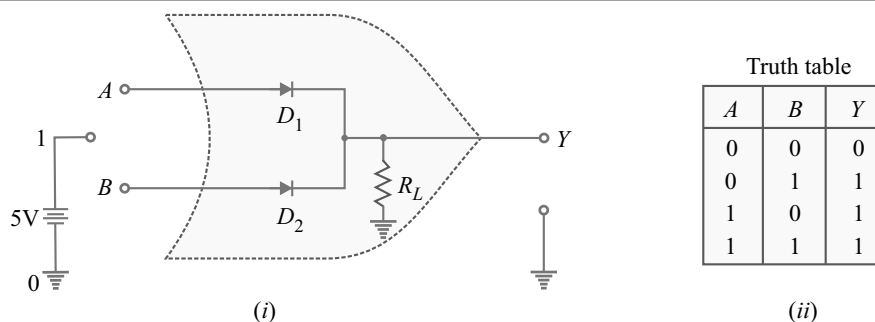

Fig. 24.11
**OR gate operation.** Fig. 24.11 (i) shows two-input OR gate built by using two ideal diodes  $D_1$  and  $D_2$  and a resistor  $R_L$ . The input voltages are labelled as  $A$  and  $B$  while the output voltage is  $Y$ . Note that negative terminal of the battery is grounded and corresponds to 0 state (LOW level). The positive terminal of the battery (+ 5 V) corresponds to 1 state (HIGH level). There are only four input-output possibilities.
(i) **When  $A = 0$  and  $B = 0$ .** This means that both diodes  $D_1$  and  $D_2$  are connected to ground (0V). Therefore, both the diodes are reverse biased and non-conducting. As a result, output voltage across  $R_L$  is zero *i.e.*,  $Y = 0$  as shown in the truth table in Fig. 24.11 (ii).
(ii) **When  $A = 0$  and  $B = 1$ .** This means that  $D_1$  is connected to ground (0 V) and  $D_2$  is connected to + 5 V. Therefore,  $D_1$  does not conduct (reverse biased) while  $D_2$  conducts (forward biased). As a result, full voltage of + 5 V appears across the load  $R_L$ . In other words, output is high *i.e.*,  $Y = 1$  as shown in the truth table in Fig. 24.11 (ii).
(iii) **When  $A = 1$  and  $B = 0$ .** This means that diode  $D_1$  is connected to + 5 V and diode  $D_2$  to ground (0 V). Therefore,  $D_1$  is forward biased and conducts while  $D_2$  is reverse biased and does not conduct. As a result, voltage across  $R_L$  is again + 5 V. In other words, output is high *i.e.*,  $Y = 1$  as shown in the truth table in Fig. 24.11 (ii).
(iv) **When  $A = 1$  and  $B = 1$ .** This means that both diodes  $D_1$  and  $D_2$  are connected to + 5 V. Therefore, both diodes are forward biased and conduct. Since the diodes are in parallel, the output voltage is + 5 V. In other words, the output is high *i.e.*,  $Y = 1$  as shown in the truth table in Fig. 24.11 (ii).